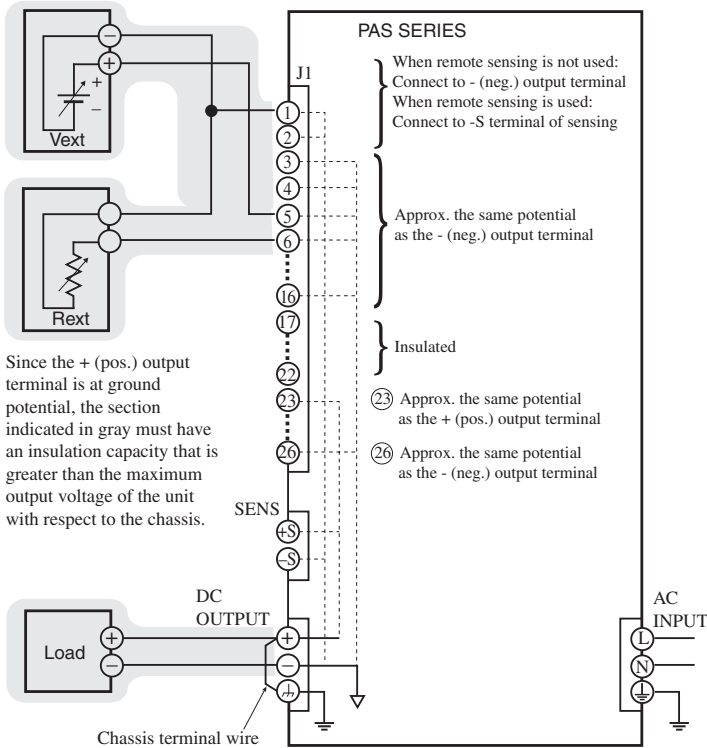

Fig.2-11 When the + (pos.) output terminal is grounded
• If the unit is to be remotely controlled through an external voltage source (Vext), do not ground the Vext output (leave it floating). If the Vext output is grounded in the example shown in Fig.2-11, the output is short-circuited (which can cause accidents).
Fig.2-11 shows the case when the + (pos.) output terminal is connected to the chassis terminal. In this case, the + (pos.) output terminal is at ground potential. Therefore, the cable and load that are connected to the output terminal (including the sensing terminal) only require an insulation capacity that is greater than the maximum output voltage of the unit with respect to the chassis.